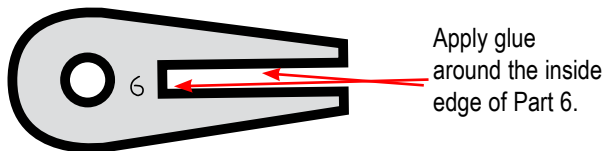
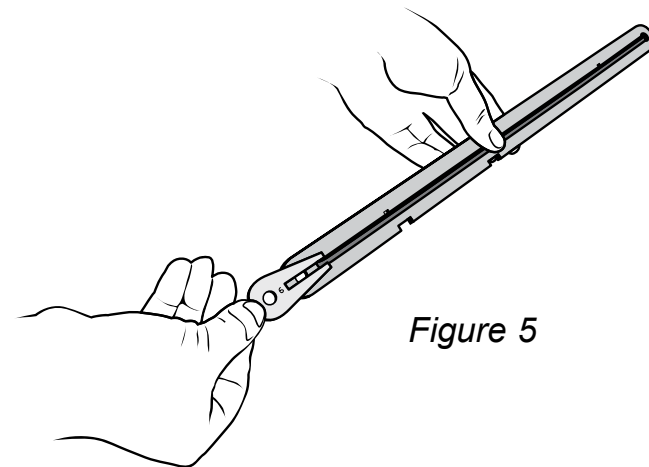

Figure 4
Figure 5
- Locate one of the magnet supports (Part 6) and apply a bead of glue along the *inside* edge (Figure 4 below). Slide the magnet support onto the side rail support until the holes of the magnet support and side rail are aligned (Figure 5).